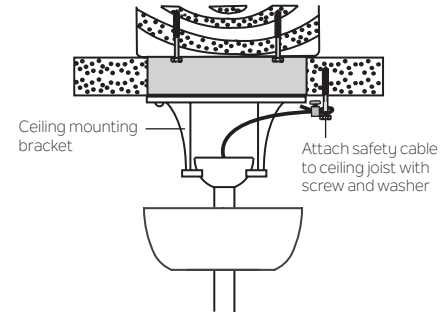

Fig. 11
**Step 1.** Attach the wood screw and washers to the ceiling joist next to the mounting bracket but do not tighten. (Fig. 11)